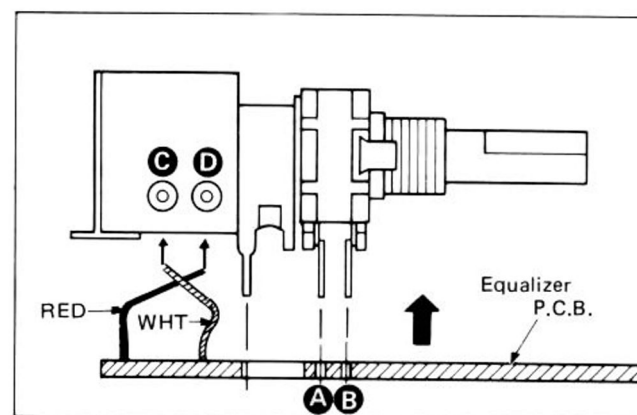

Fig. 7
9. Unsolder of volume motor (Fig. 7: A ~ D).
10. Remove the volume motor in the direction of the arrow in Fig. 7.